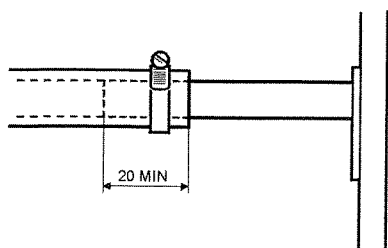

FIGURE 1a PRE MOD M500/M554
- 9.1 Ensure vent line hose clips are correctly positioned Ref Figures 1a and 1b. If vent line cannot meet dimensions at both ends, then replace vent line with new tube (SACL Stores Code 126-36-054). Ensure the requirements of Service Bulletin SB161 Fuel Tank Vent Pipe Check are met.